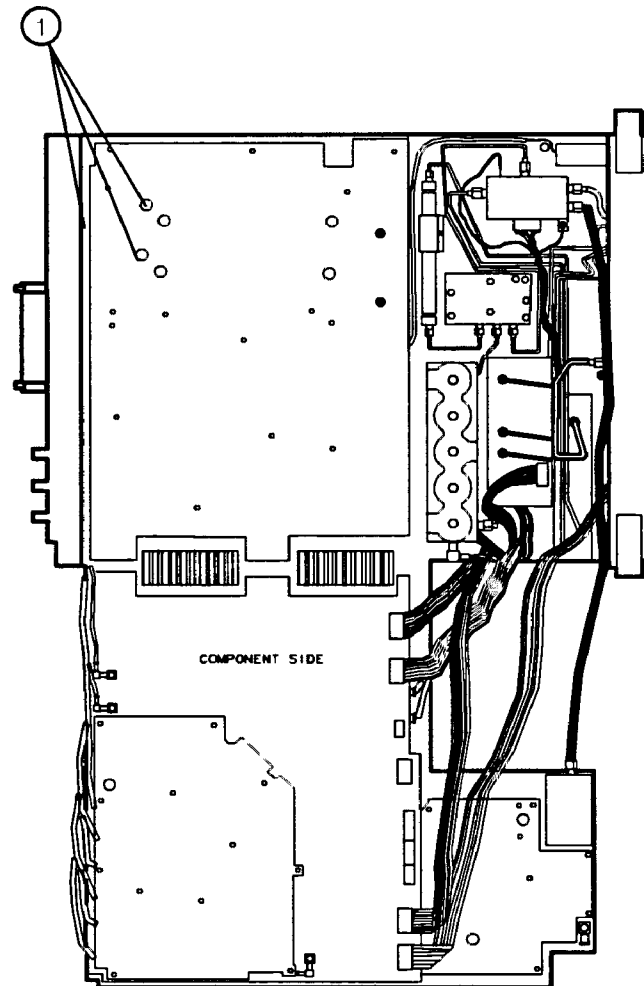

Figure 3-31. A21 OCXO Mounting Screws
4. Remove the three screws (1) securing the OCXO to the main deck. See Figure 3-31.
2. Secure the OCXO to the analyzer's main deck using three screws (1). See Figure 3-31.